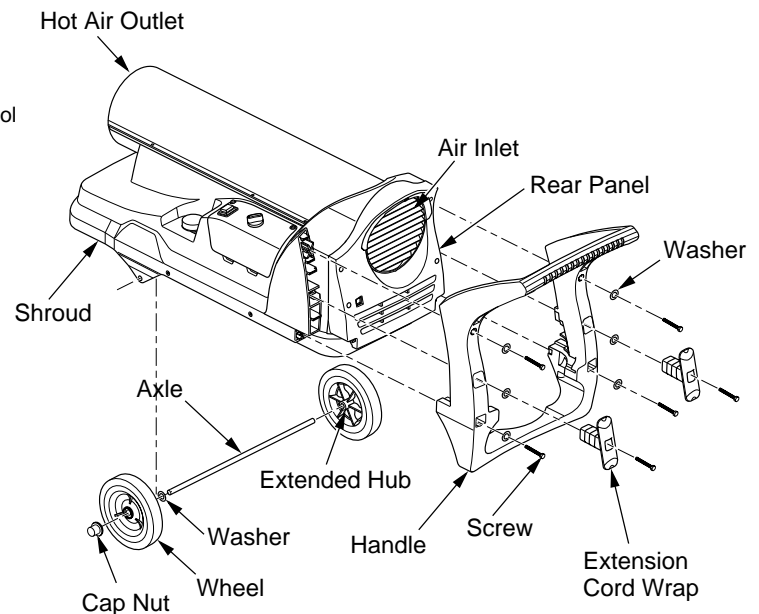

Figure 3 - Wheel and Handle Assembly
1. Slide axle through shroud. Install washers and wheels on axle as shown in Figure 3.
**IMPORTANT:** When installing wheels, point extended hub of wheels toward shroud (see Figure 3).